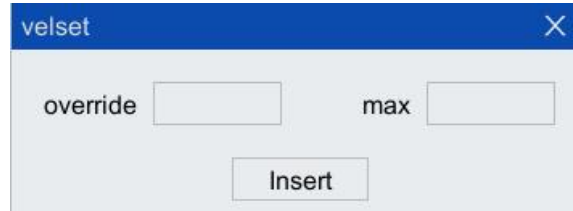

Figure 5-40 "velset" instruction configuration interface
Step1. Click "Insert Cmd> auxiliary instruction> velset" option in the toolbar of the program editor to pop up "velset" instruction box, as shown in Figure 5-40.